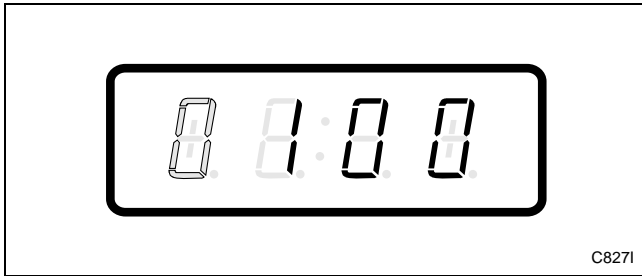

Figure 37
6. Press the START (enter) keypad to enter the fifth digit and display the remaining four digits. The active digit will flash one second on and one second off. Refer to *Figure 37*.